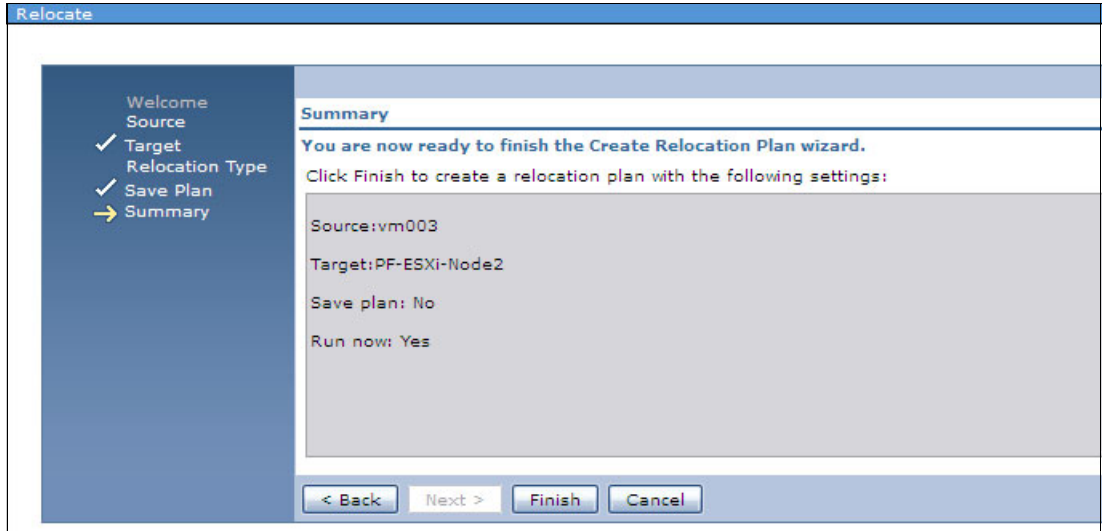

Figure 11-28 Relocate Summary window
5. Verify the relocation Summary and click **Finish** (see Figure 11-28).